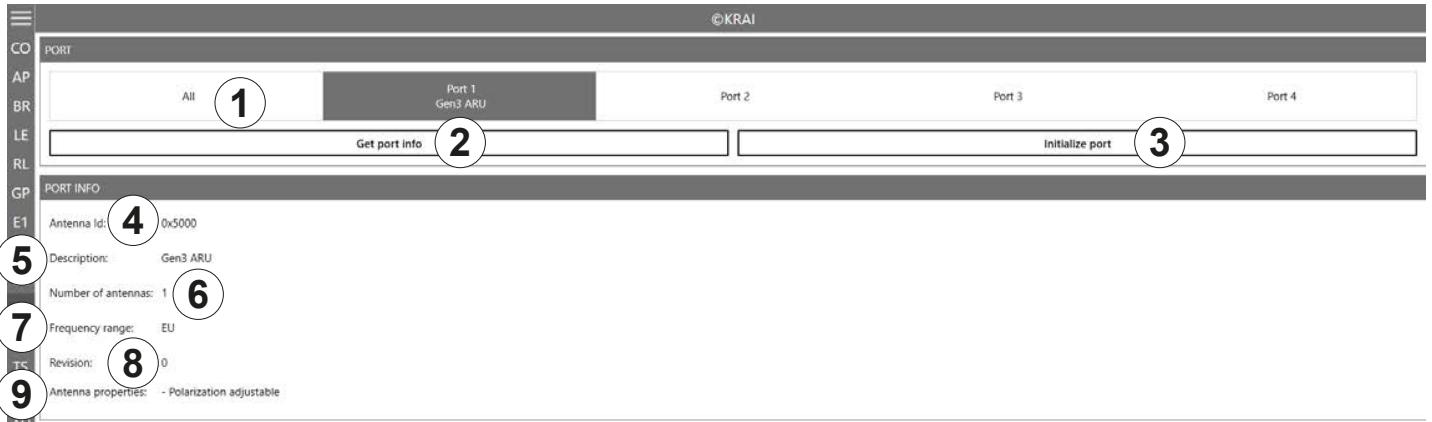

Fig. 78: @KRAI: polarisation
⑦	Lock all tags	<p>! ▶ To lock all the tags, make sure that all the tags have the same password.</p>
!	▶ To deactivate a tag, set a deactivation password that is not 0; see ② in Fig. 78. After a kill command, the tag will be unusable!